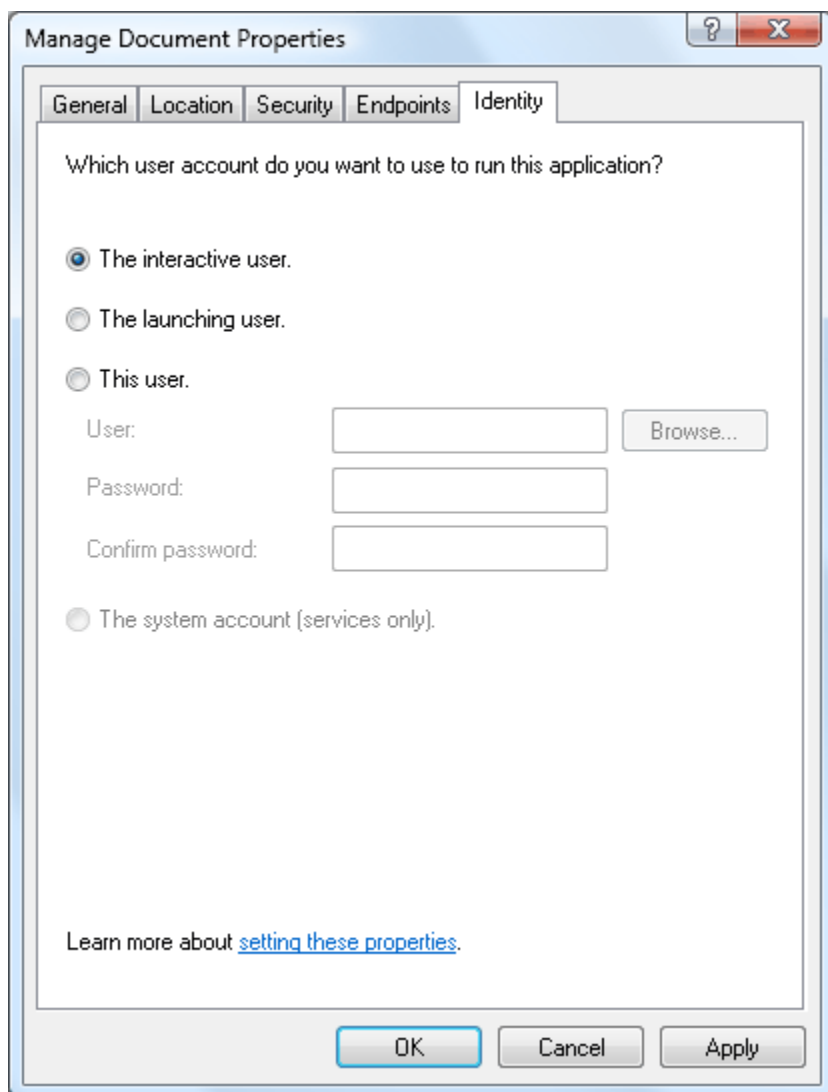

Figure 28: Manage Document Properties Window-Identity Tab
16. Select the **Identity** tab, as shown in Figure 28.